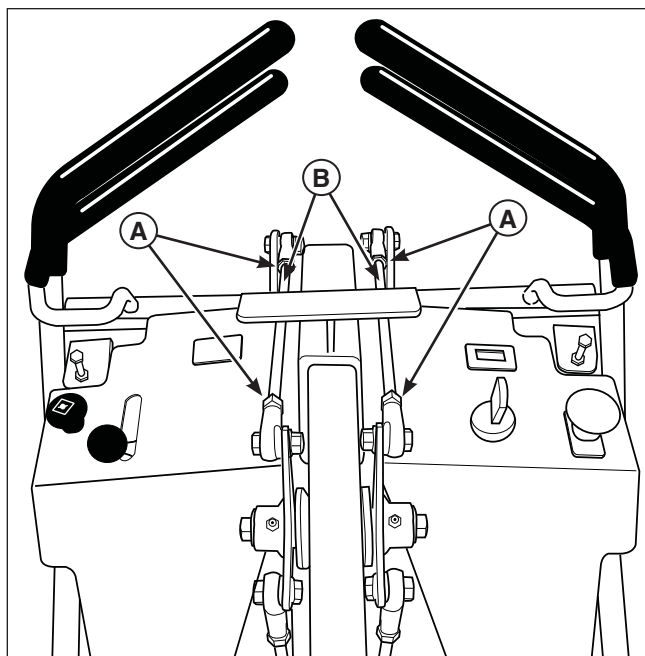

Figure 29. Speed Balancing Adjustment
1. Remove the motion control guard to gain access to the speed adjustment rods (**B**, **Figure 29**)